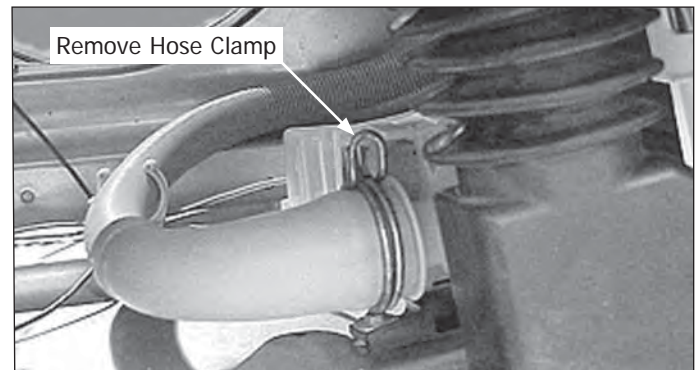

Figure 4-72.
3. Disconnect the outlet hose from the pump. (See Figure 4-72)